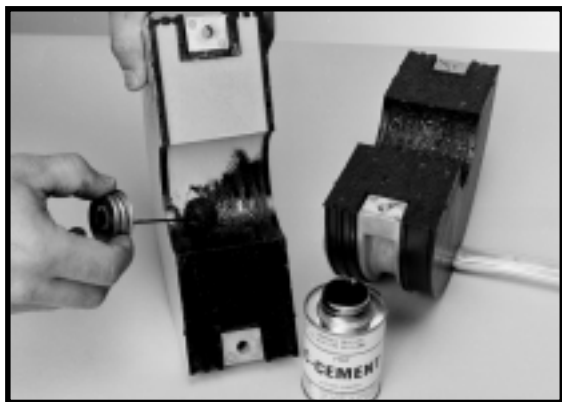

FIGURE 10 - APPLICATION OF "C" CEMENT TO END PLATE SURFACE
6.09 Apply a thin coat of "C" cement to the inside surfaces of the end plate. (Figure 10)